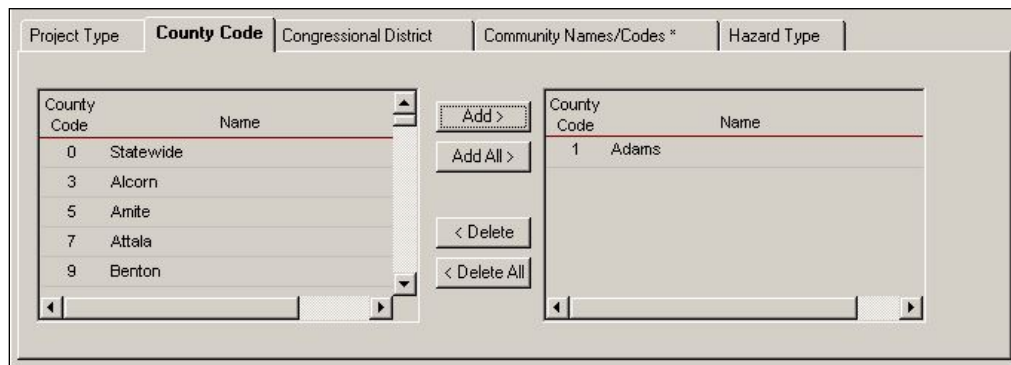

Figure 6-33: County Code and Name Added
- b. Click the ADD or ADD ALL (if you highlighted more than one row) button. The County Code(s) and Name(s) you selected are now displayed on the right side (Figure 6-33).